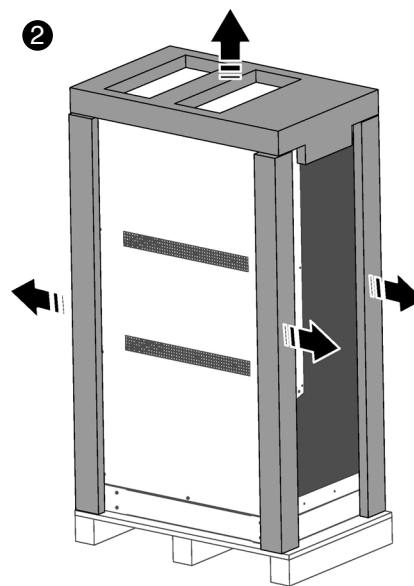

Fig. 29. Removal of the corner pieces and plastic cover.
- ❷ Remove the corner pieces and the plastic cover (Fig. 29).